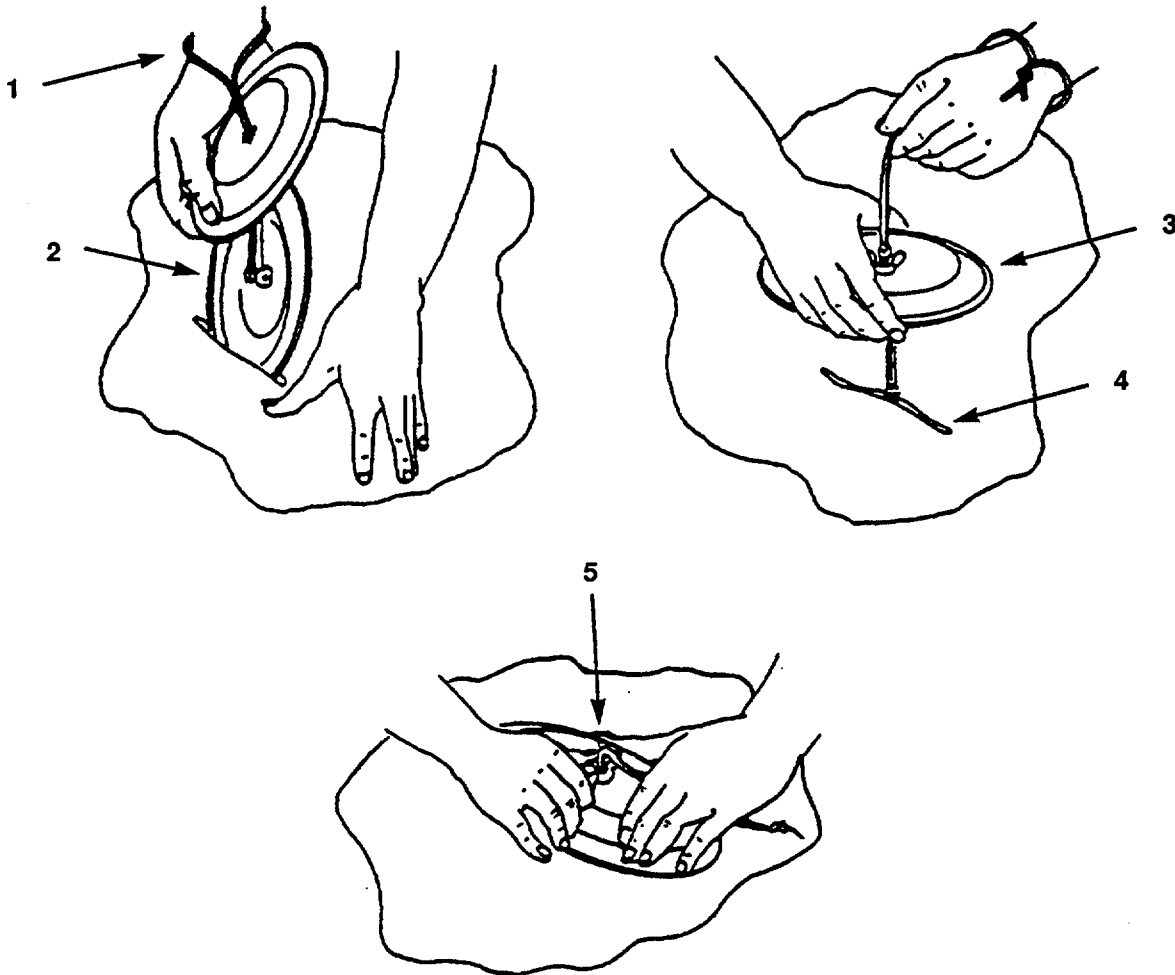

Figure 2-3. Installation of sealing clamps.
(3) Emergency repairs with sealing clamps (refer to figure 2-3)